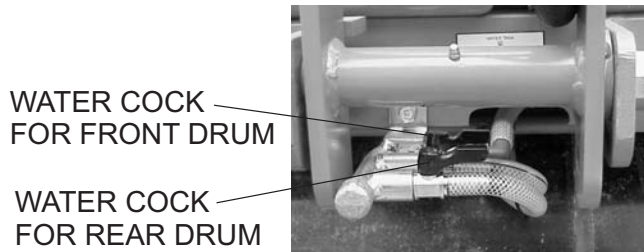

Figure 19. Water Cocks
2. For watering work, turn the water cocks clockwise, at the rear of the machine, to start sprinkling. (Figure 19).